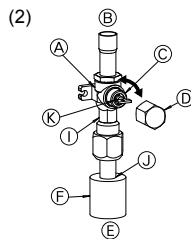

Fig. 4-7
- ① Remove the cap and turn the valve rod counterclockwise as far as it will go with the use of a 4 mm hexagonal wrench. Stop turning when it hits the stopper. (Approximately 10 revolutions)
- ② Make sure that the stop valve is open completely and rotate the cap back to its original position.
- (2) Gas side of stop valve (Fig. 4-7)
- ① Remove the cap, pull the handle toward you and rotate 1/4 turn in a counterclockwise direction to open.
- ② Make sure that the stop valve is open completely, push in the handle and rotate the cap back to its original position.